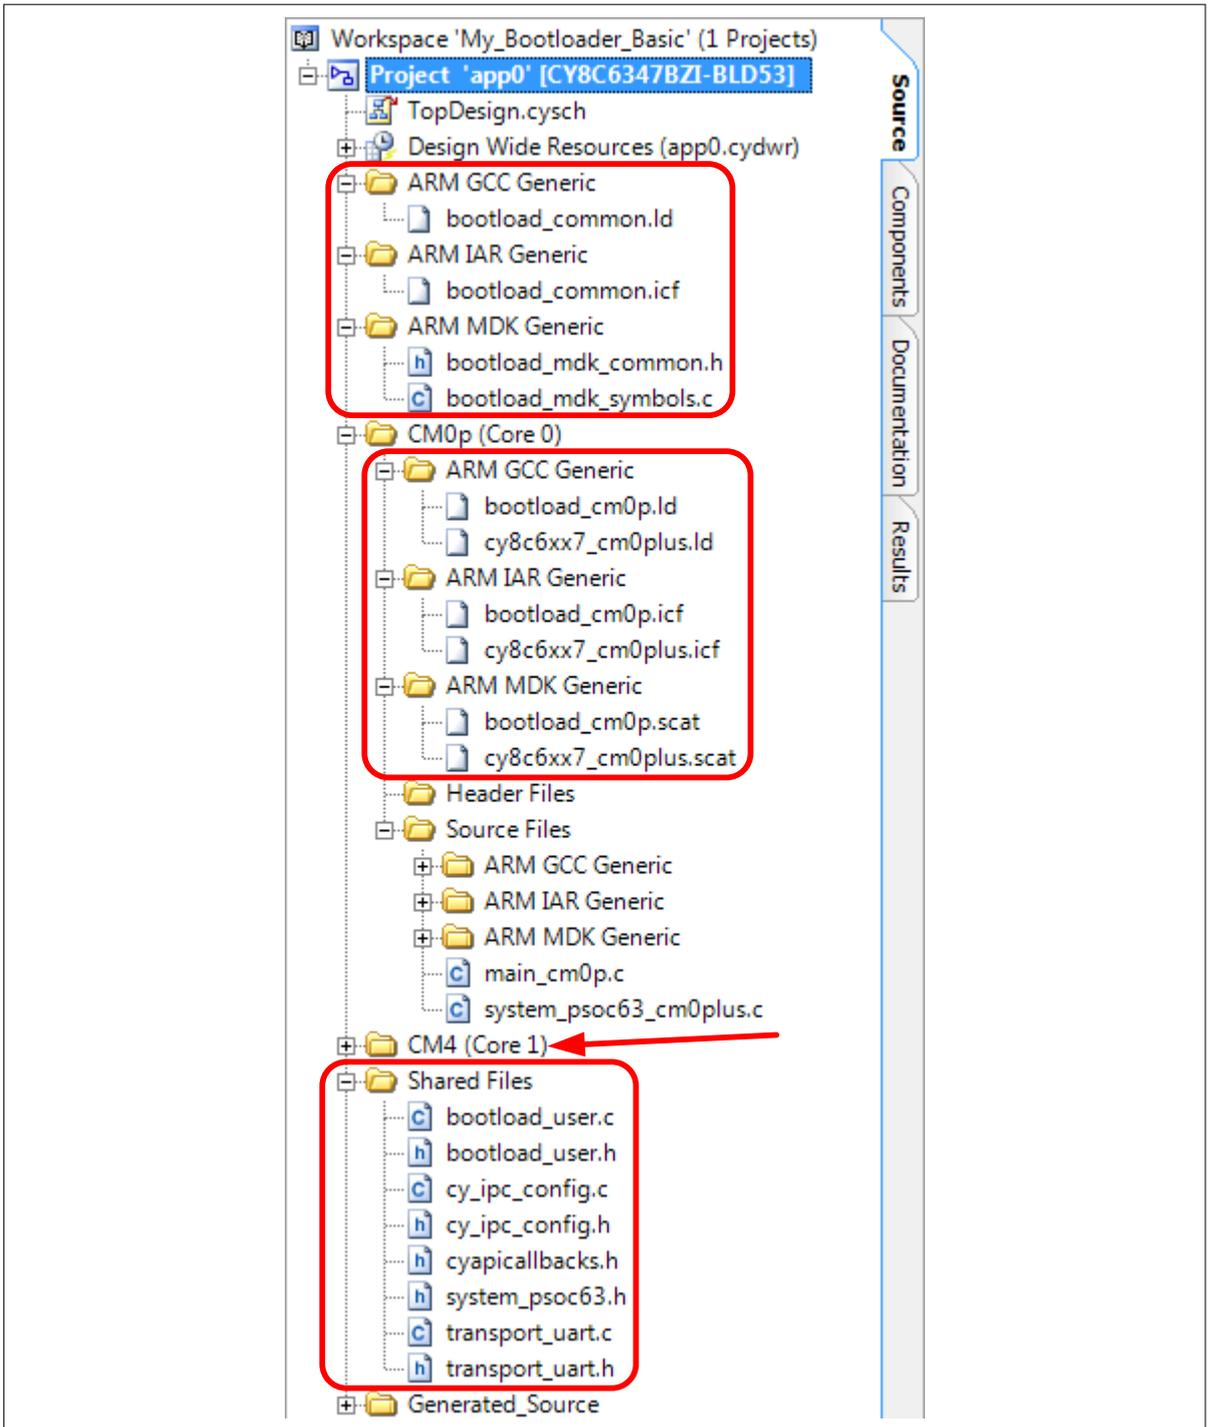

Figure 11 Add SDK files to a PSoC™ Creator project
3. Generate the project files. Click the project in the Workspace Explorer window and select **Build > Generate Application**. The files are added to the project, as Figure 11 shows.
Note: Figure 11 shows bootloader files added to the CM0p folder. Similar files are also added to the CM4 folder but are not shown